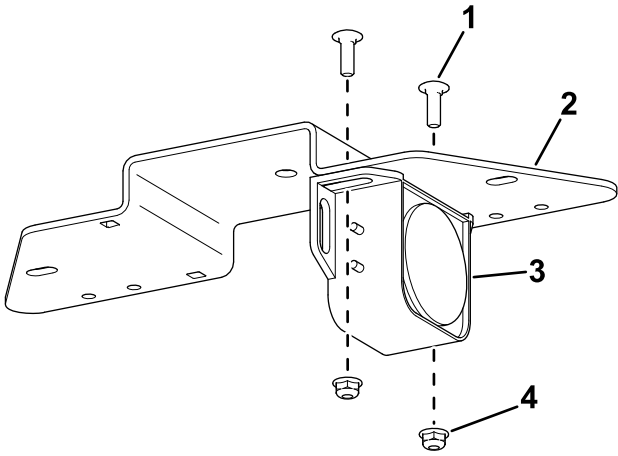

Figure 1
1. Use 2 carriage bolts (1/4 x 3/4 inch) and 2 flange nuts (1/4 inch) to secure the alarm to the mount bracket (Figure 1).